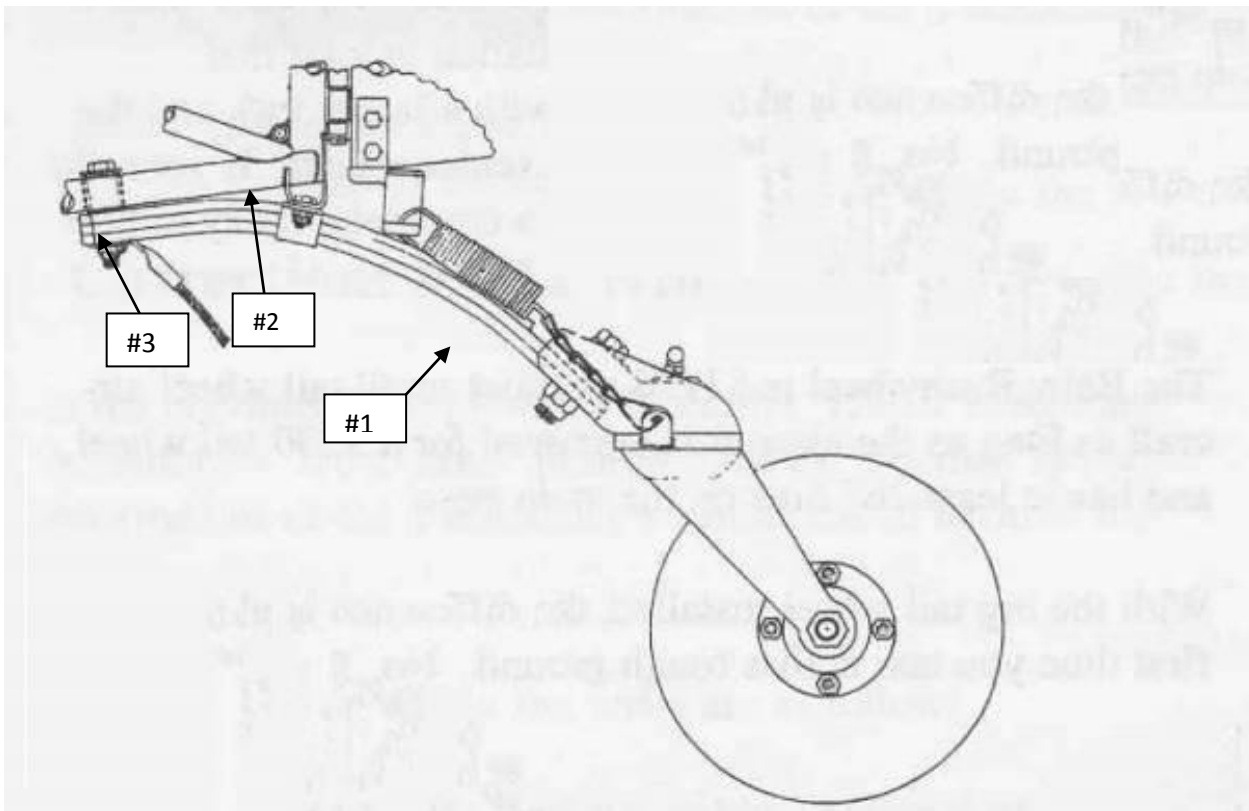

Figure 1: Typical Tail Spring Setup
- D) Remove the bolt securing the tailwheel assembly to the spring and inspect it for wear. ABI, LLC recommends replacement of all hardware (see Figure 1, #1).
- E) Remove the bolts from the rear tail spring bracket (see Figure 1, #2).
- F) Remove front spring attach bolt (see Figure 1, #3), and remove tail spring.